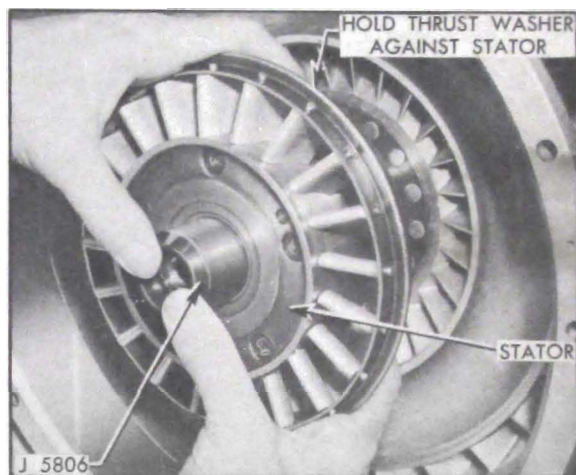

Figure 5-27—Removing Stator Assembly
6. Install Tool J 5806 over input shaft with beveled end outward. Pull stator forward on reaction shaft, grasp thrust washer located behind the stator to retain all free wheeling parts in the stator, then slide the assembly forward upon the tool and remove from input shaft. See figure 5-27.